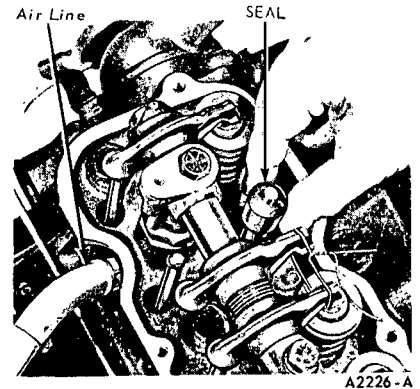

FIG. 29—Valve Stem Seal Removal
6. Remove the valve stem seal (Fig. 29). If air pressure has forced the piston to the bottom of the cylinder, any removal of air pressure will allow the valve(s) to fall into the cylinder. A rubber band, tape or string wrapped around the end of the valve stem will prevent this condition and will still allow enough travel to check the valve for binds.